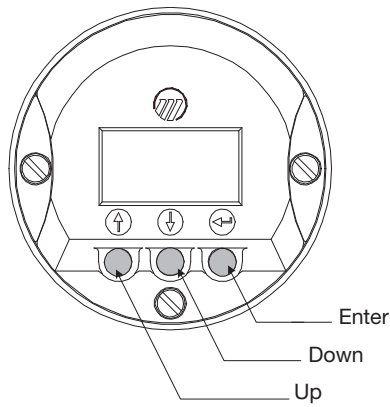

Figure 3
3. Use the \uparrow and \downarrow keys to move from one step of the configuration program to the next step, see Figure 3.